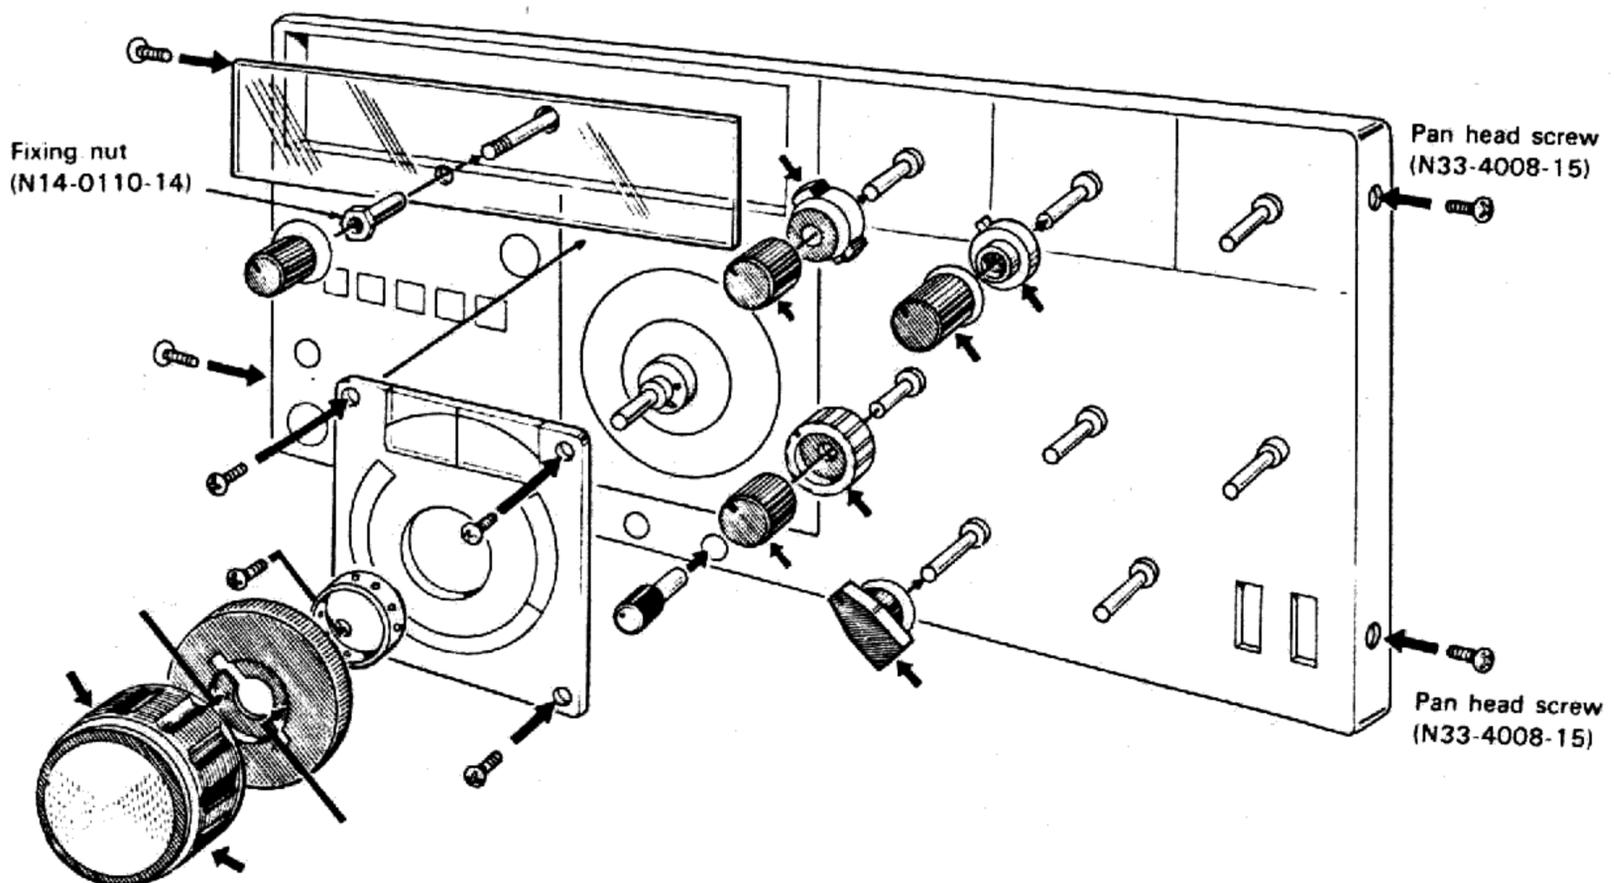

Fig. 13 Removing the panel
- 3) Remove the screws from both sides of the panel according to Fig. 13.